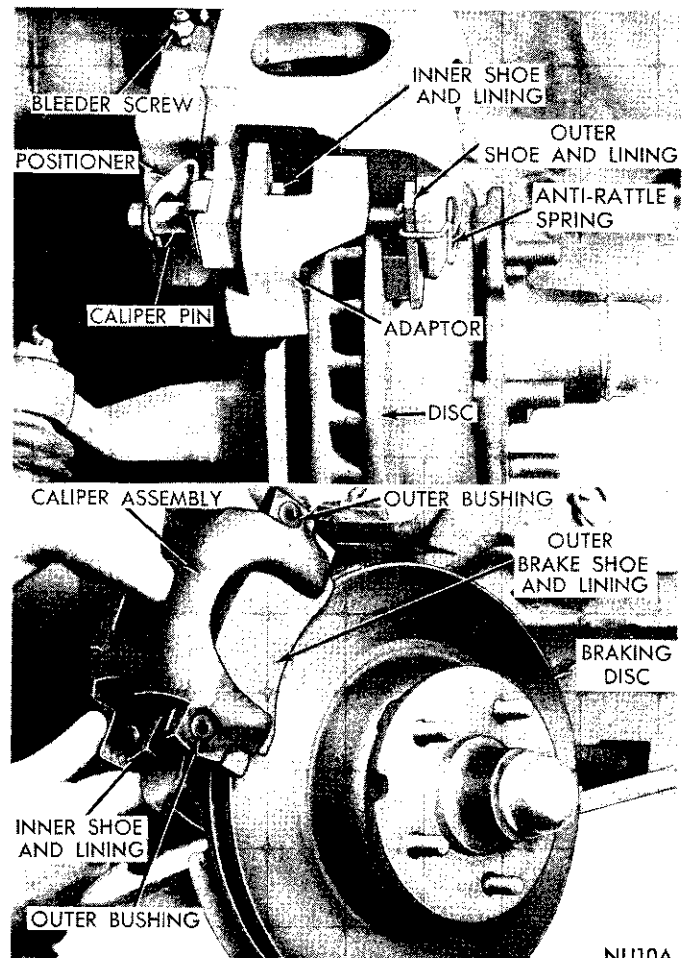

Fig. 7—Removing or Installing Caliper
(1) Raise vehicle on a hoist or jackstands.
(2) Remove front wheel covers, and wheel and tire assemblies.
(3) Remove caliper guide pins positioners that attach caliper to adaptor and anti-rattle spring.
(4) Remove caliper from disc by slowly sliding caliper assembly out and away from braking disc (Fig. 7). Support caliper firmly so as not to damage flexible brake hose.